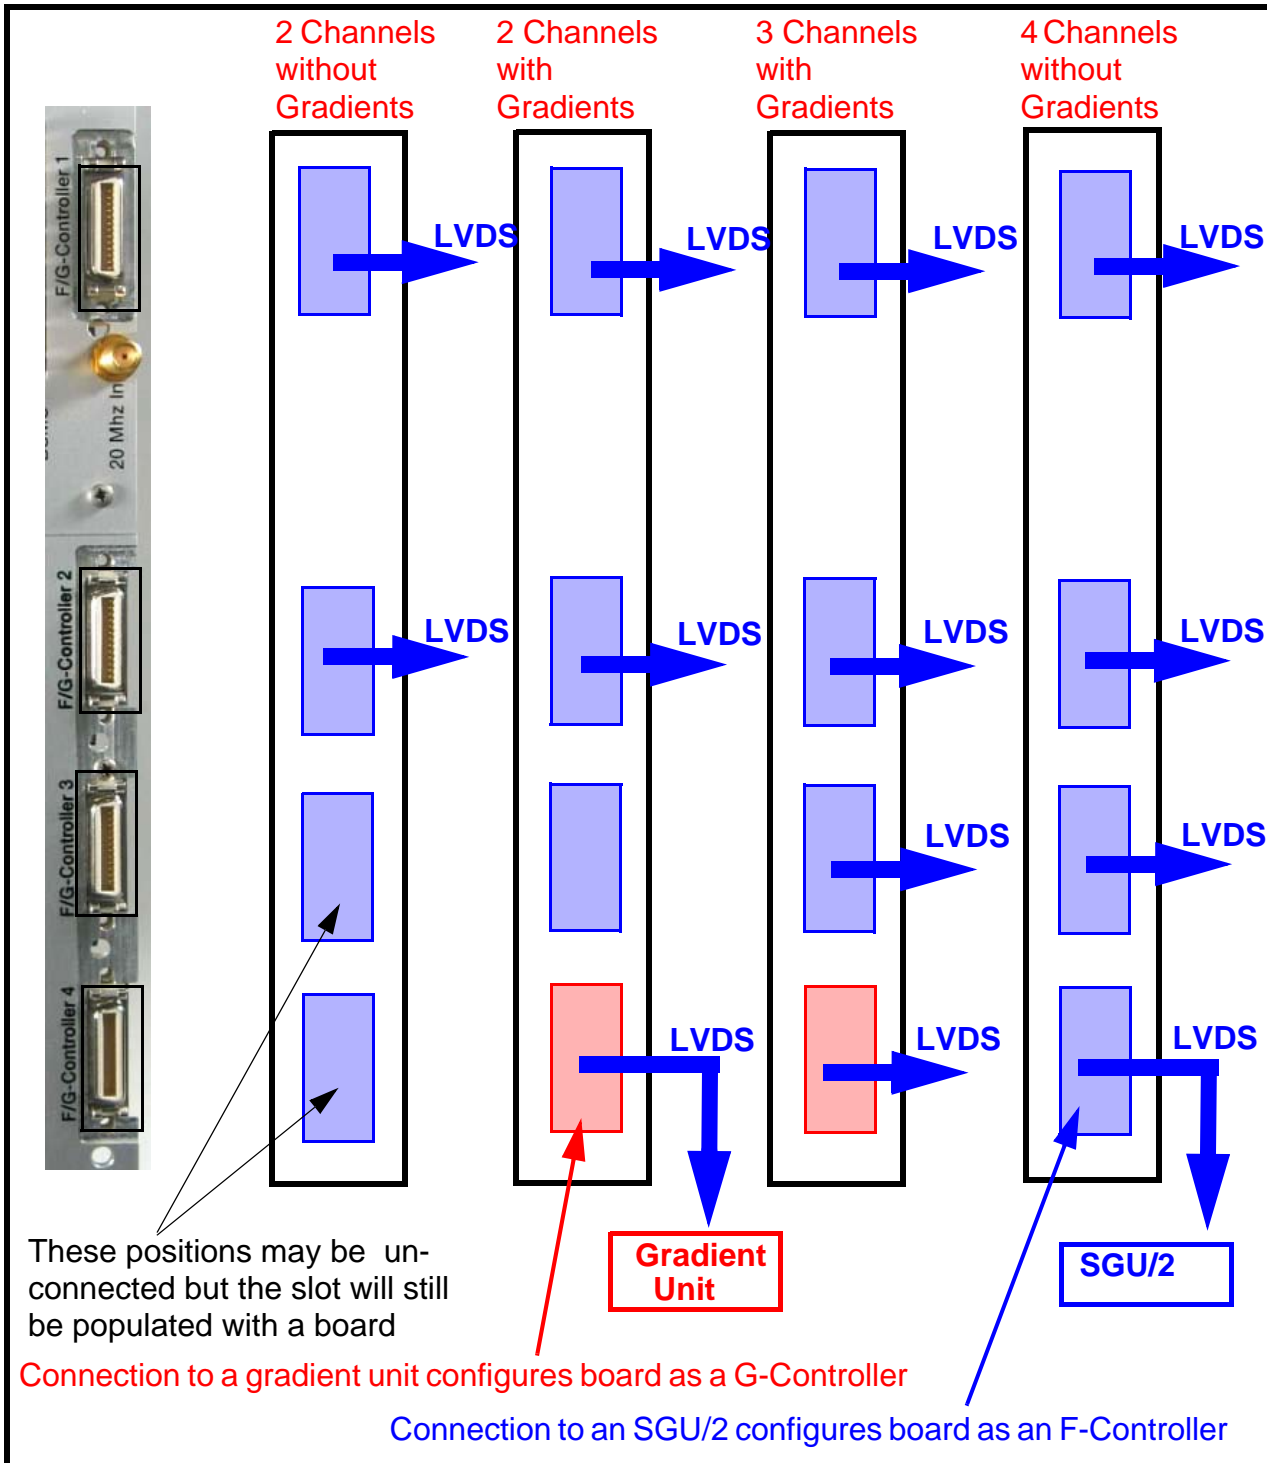
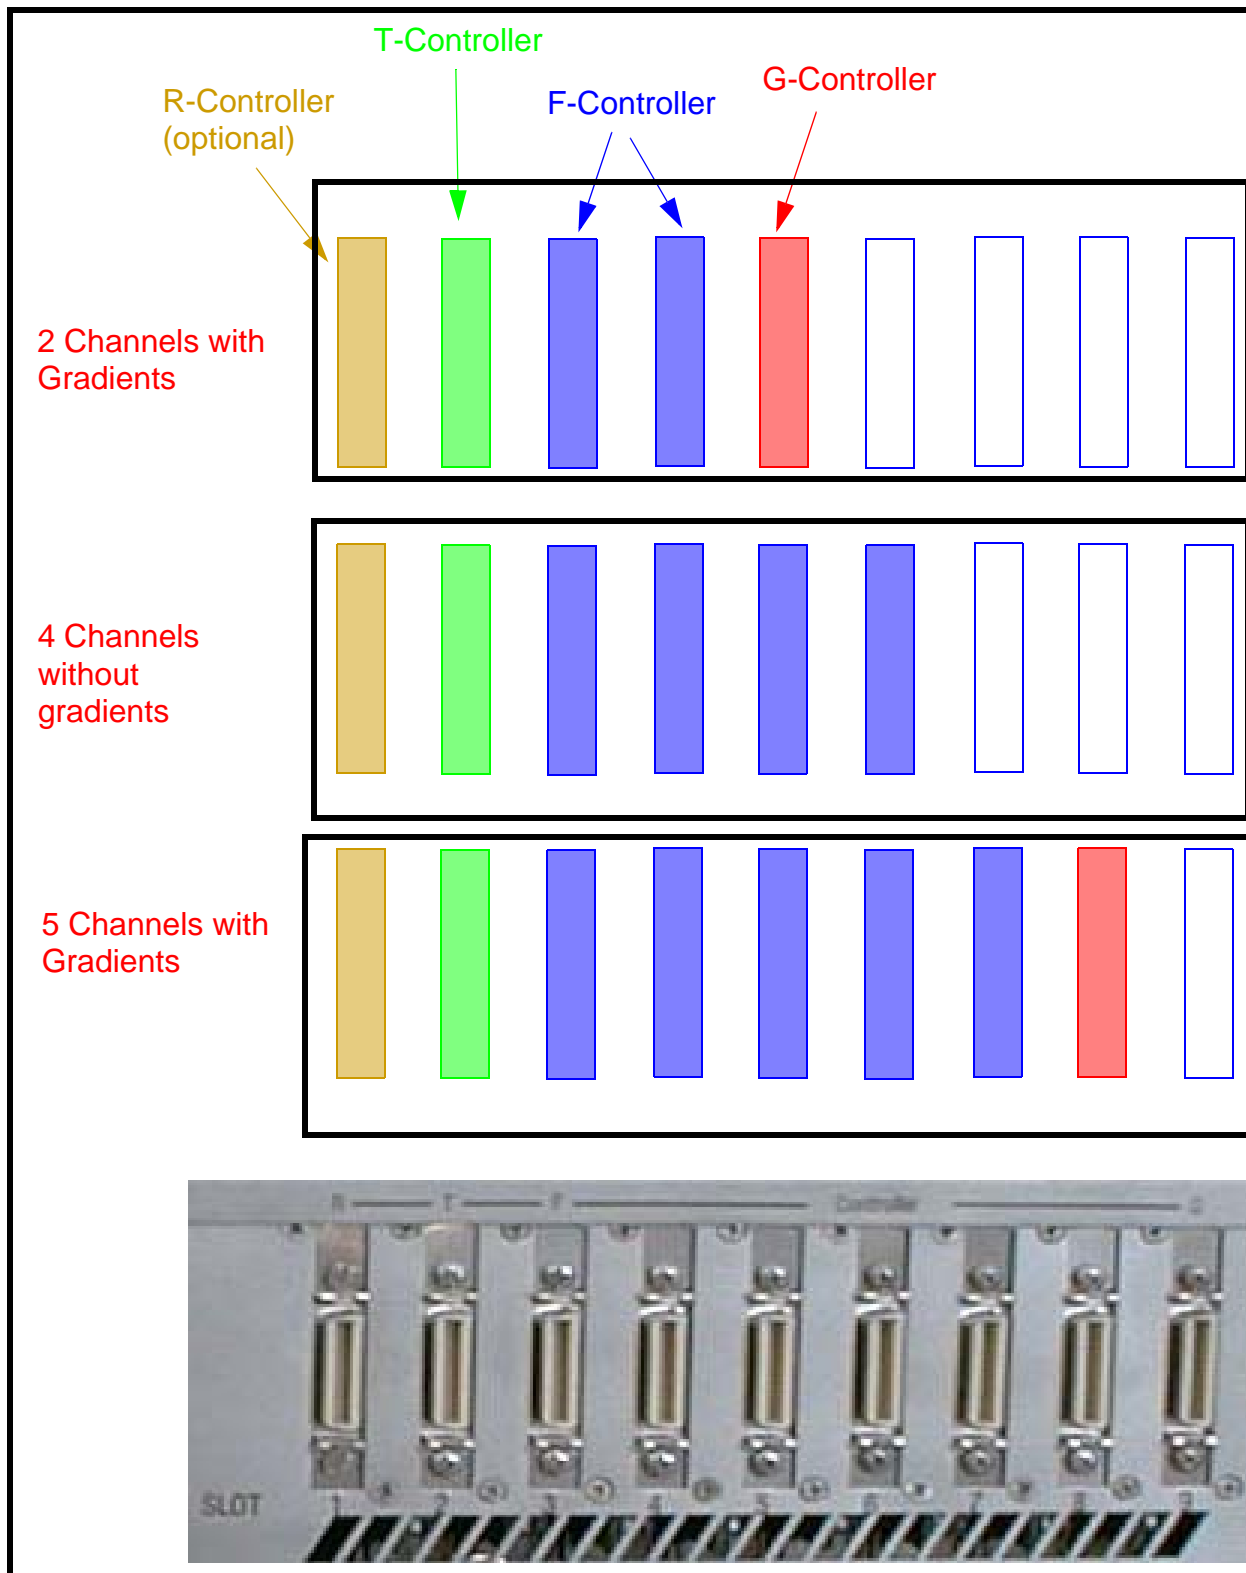

Figure 4.8. Four Sample Configurations of the AQS IPSO
Figure 4.9. Three Sample Configurations of the 19" IPSO
- The board position (see **Figure 4.9.**) is fixed regardless of the individual spectrometer configuration, number of channels etc. Indeed it is the board position that designates a Tx-Controller as a T-Controller.
Some sample configurations are shown in Figure 4.8. and Figure 4.9. Note that every AQS IPSO will be fitted with 4 Tx-Controllers as standard. The type and
number of channels will depend on whether each board is connected and whether it is connected to an SGU/2 (F-Controller) or gradient unit (G-Controller) see **Figure 4.8.**